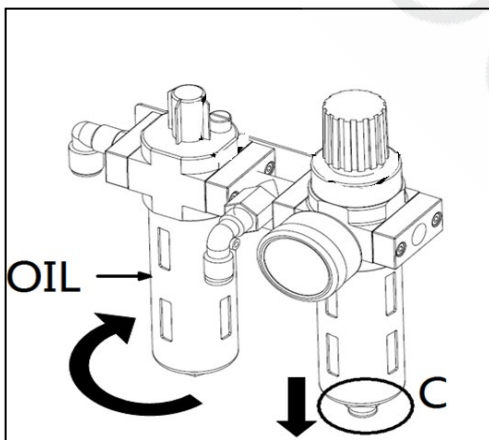

FIG40
- Periodically check the height of the in the oil fogger. If it is lower than the oil scale, please fill in the SAE30 grease. Periodically drill out the water and impurity in the oil-water separator. (Fig40)